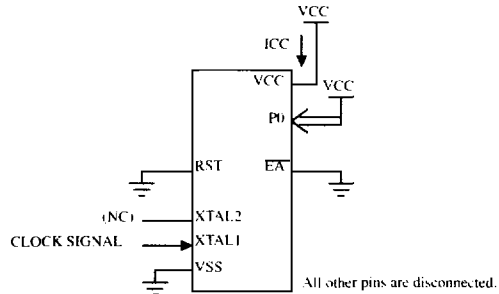
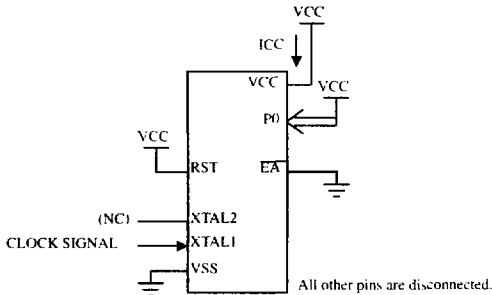

Figure 20. ICC Test Condition, Idle Mode.
Figure 19. ICC Test Condition, Active Mode.
1. ICC is measured with all output pins disconnected; XTAL1 driven with TCLCH, TCHCL = 5 ns (see Figure 20.). VIL = VSS + 0.5V, VIH = VCC - 0.5V; XTAL2 N.C.; EA = RST = Port 0 = VCC. ICC would be slightly higher if a crystal oscillator used (see Figure 19.).
2. Idle ICC is measured with all output pins disconnected; XTAL1 driven with TCLCH, TCHCL = 5ns, VIL = VSS + 0.5V, VIH = VCC - 0.5V; XTAL2 N.C.; Port 0 = VCC; EA = RST = VSS (see Figure 20.).